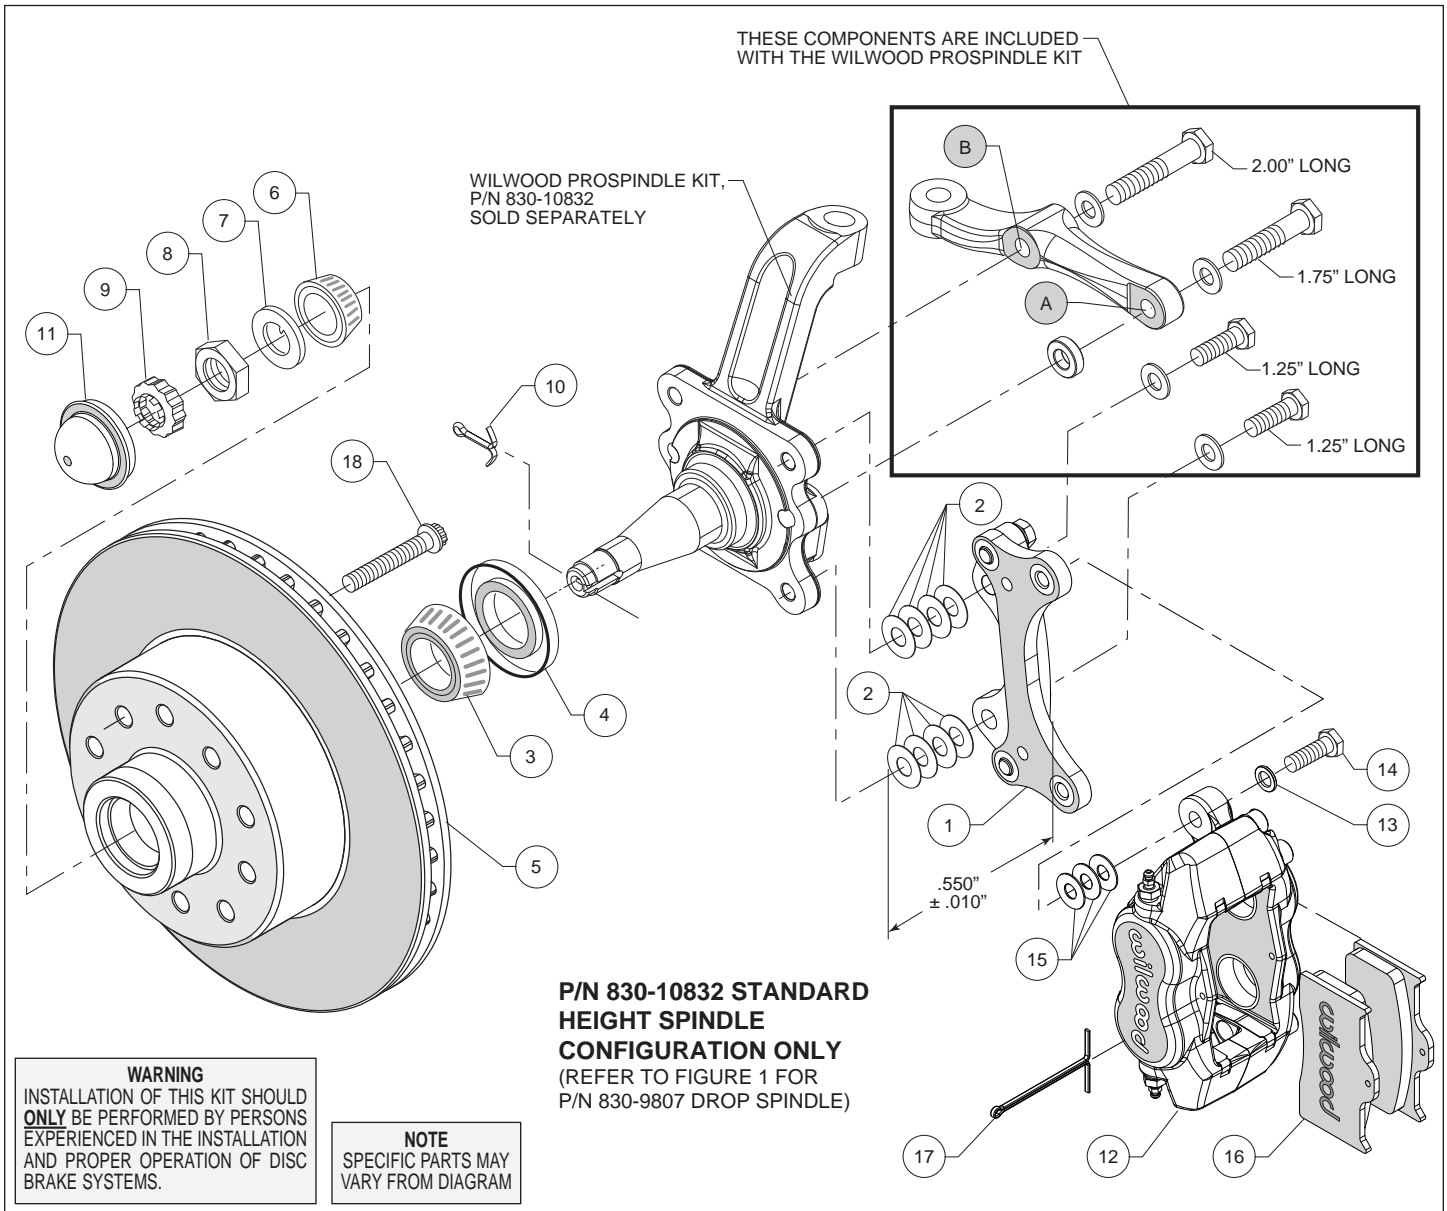

Figure 2. Installation Configuration For Standard Height Spindle, P/N 830-10832
**For Standard Height ProSpindle (P/N 830-10832):** The caliper bracket assembly (1) should initially be installed with clean, dry threads on the mounting bolts.
- Orient the bracket as shown in Figure 2 and Photo 2. Install using 1.25" long bolts and .06" thick washers (from ProSpindle kit), and four .016" thick shims (2) on each bolt between the bracket and spindle, Figure 2. Temporarily tighten mounting bolts. **NOTE:** The bracket must fit squarely against the mounting points on the spindle. Inspect for interference from casting irregularities, machining ridges, burrs, etc. Remove the mounting bolts one at a time, apply red Loctite 271 to the threads, and torque to 55 ft-lb.
- Orient the steering arm, and identify the hole marked 'A', as shown in Figure 2. Install using 1.75" long bolt, .06" thick washer, and .30" thick spacer (all from ProSpindle kit), Figure 2.
- Finish attaching the steering arm through the hole marked 'B', as shown in Figure 2. Install using 2.00" long bolt and .06" thick washer (from ProSpindle kit), Figure 2.